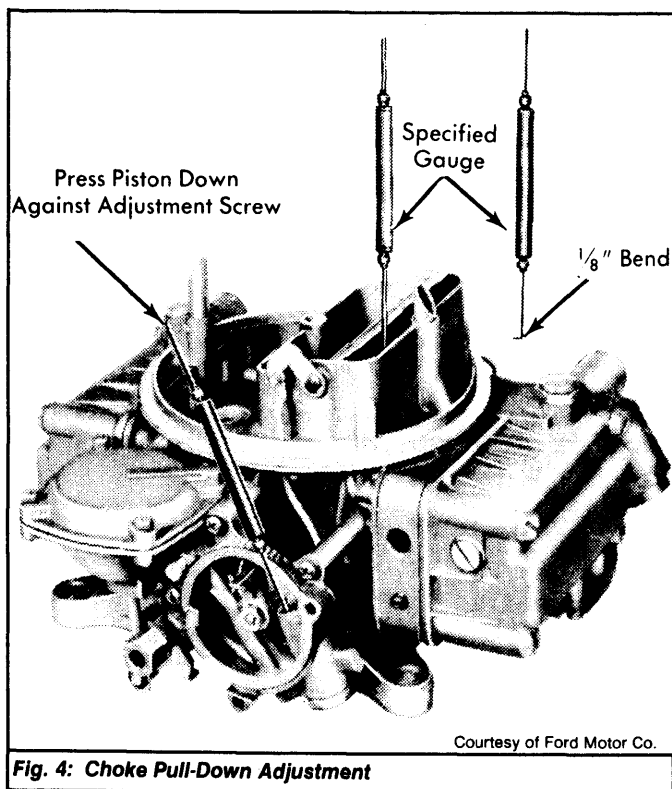

Fig. 4: Choke Pull-Down Adjustment
1) Remove choke thermostat housing, gasket and retainer. Insert a .026" wire gauge into choke piston bore. This moves piston down against stop screw. See Fig. 4.